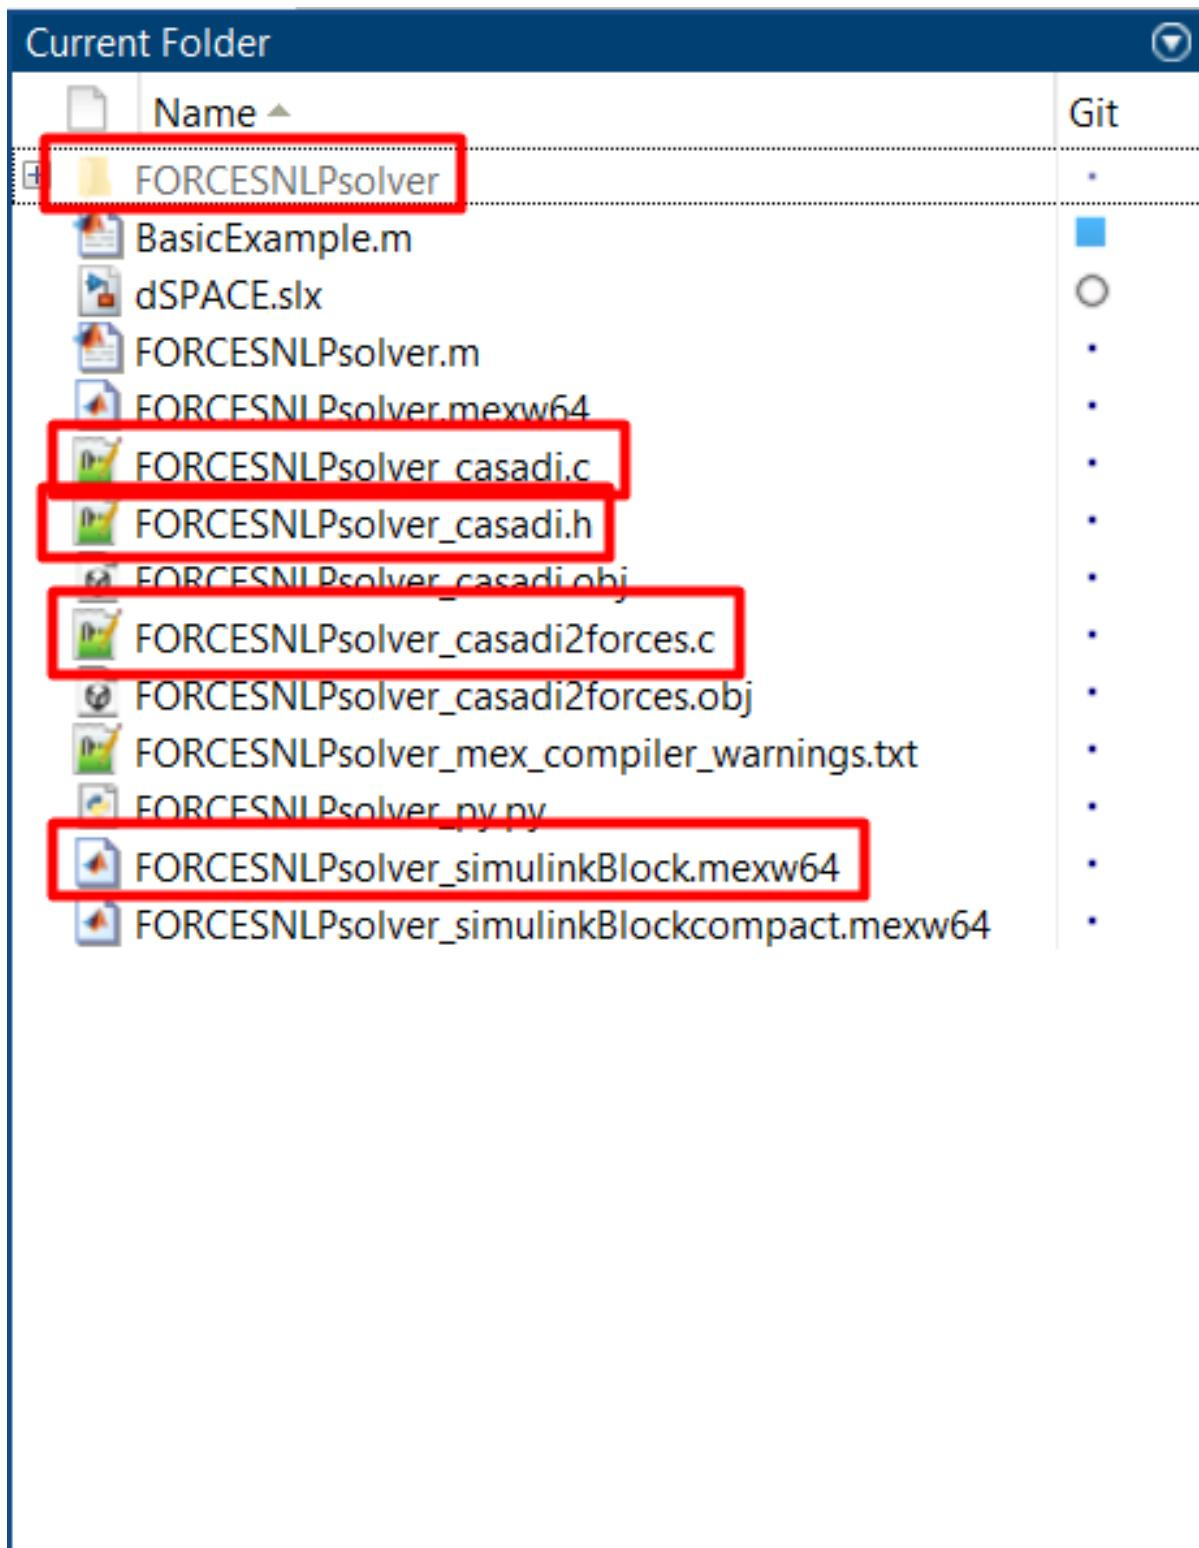
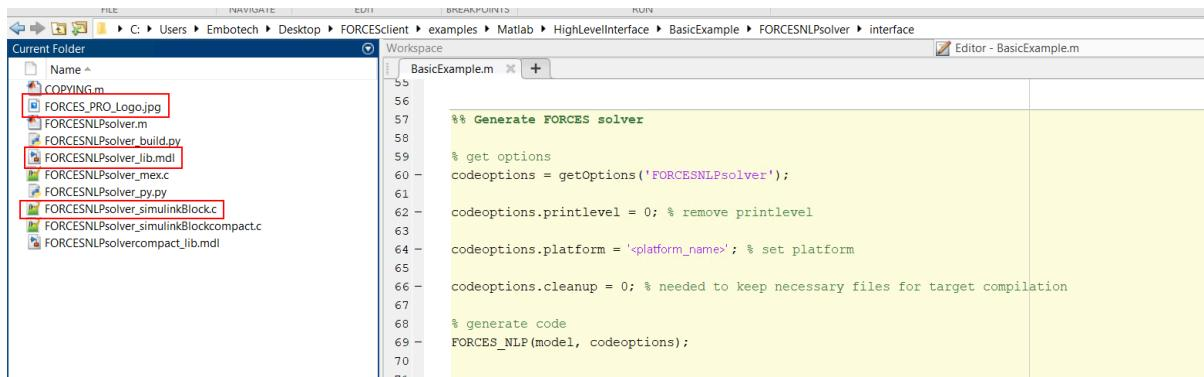
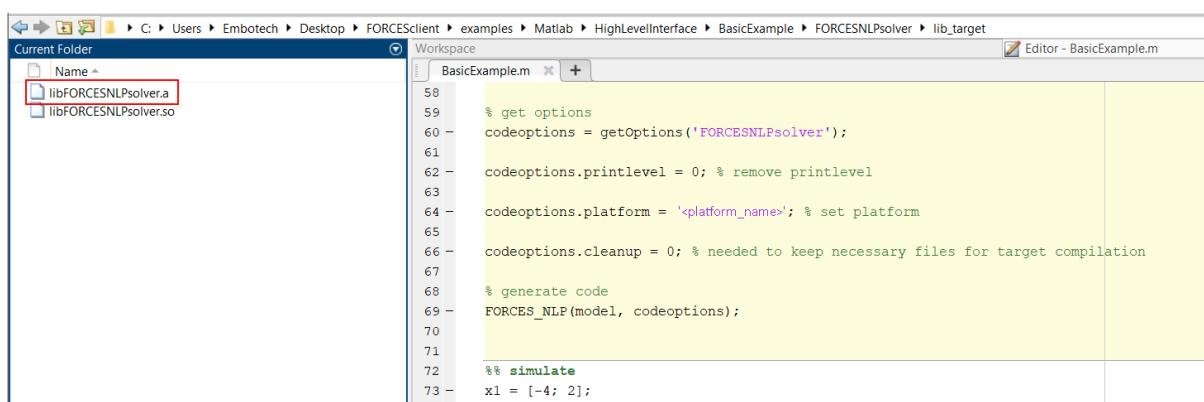

Figure 13.31: Generated files.
Figure 13.32: Solver interface files.
Figure 13.33: Solver libraries.
- 4) Run the `BasicExample.m` script to perform code generation for your solver (henceforth referred to as `FORCESNLPsolver`, placed in the folder “`BasicExample`”). This will create the necessary files for your building (see Figure 13.31, Figure 13.32 and Figure 13.33).